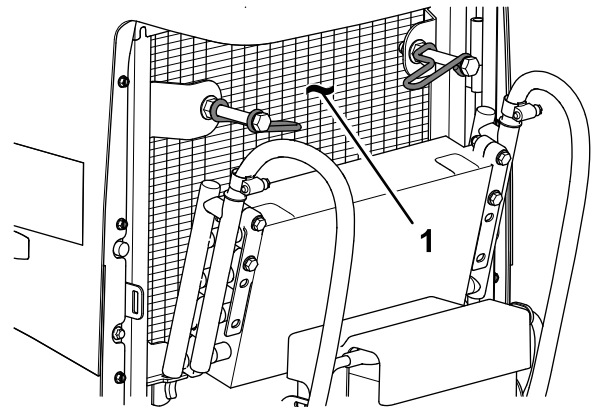

Figure 114
- Thoroughly clean both sides of the oil cooler and the radiator (Figure 114) with compressed air.